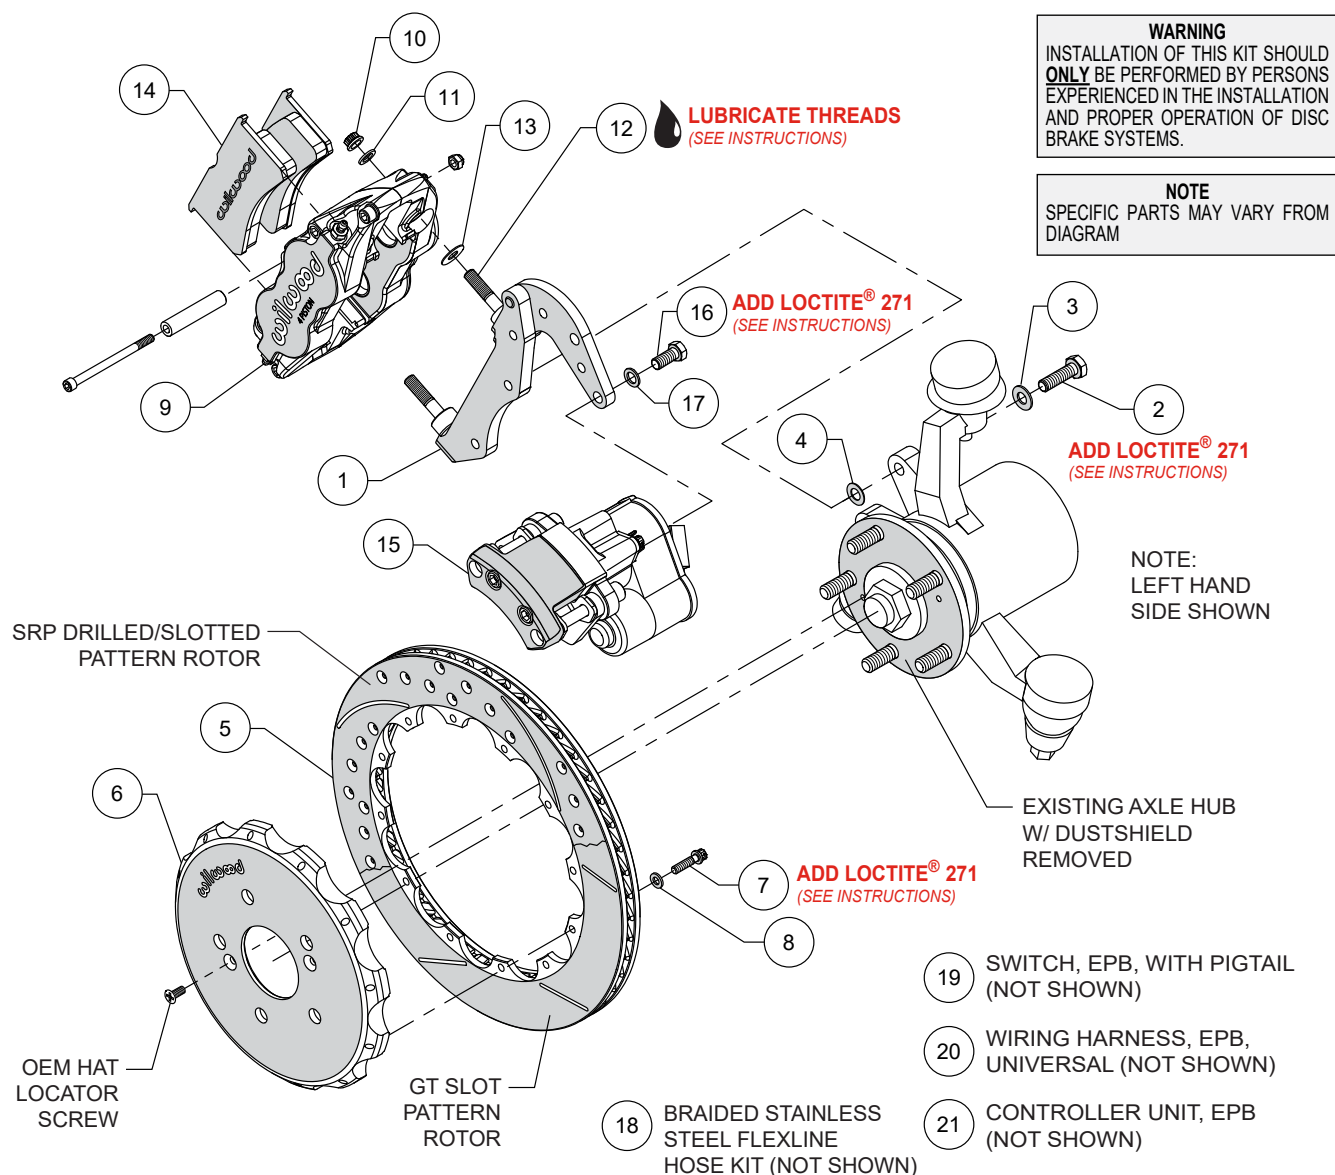
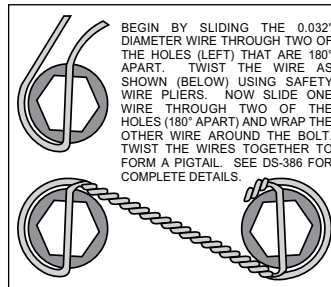

Figure 1. Typical Installation Configuration
Figure 3. Safety Wire Diagram
NOTE: Numbers in parenthesis refer to the parts list and Figure 1 on the preceding pages.
- The caliper mount bracket assembly (1) should initially be installed with clean, dry threads on the bolts. Orient the bracket assembly as shown in Figure 1 and Photo 1, and install using mount bolts (2) and washers (3). Initially place one .030" thick shim (4) on each bolt between the bracket (1) and upright. Temporarily tighten the mounting bolts. **NOTE: The bracket must fit squarely against the mount bosses on the upright.** Inspect for interference from casting irregularities, machining ridges, burrs, etc. Later, after the caliper alignment has been checked, the mount bolts will be secured using red *Loctite*® 271 and properly torqued.
- Orient the rotor (5) and the hat (6) as shown in Figure 1 and Photo 2. Attach rotor to hat using bolts (7) and washers (8). Apply red *Loctite*® 271 to the bolt threads and torque to 155 in-lb using a criss-cross pattern. For an added measure of security, the bolts may be safety wired using standard 0.032 inch diameter stainless steel safety wire as shown in Figure 3. Please refer to Wilwood's data sheet DS-386 (available at www.wilwood.com/Pdf/DataSheets/ds386.pdf) for complete safety wire installation instructions.
- Lubricate the caliper mounting studs (12) with lightweight oil. Initially place one .035" thick shim (13) on each stud between the caliper and the bracket (1), as shown in Figure 1 and Photo 3. Mount the caliper (9) onto the bracket (1) using lock nuts (10) and washers (11), Figure 1. Temporarily tighten the lock nuts and view the rotor through the top opening of the caliper. The rotor should be centered in the caliper as shown in Photo 4. If not, adjust by adding or subtracting shims (4) between the bracket and the upright. Always use the same amount of shims on each of the two mounting bolts. Once the caliper alignment is correct, remove the bracket mounting bolts (2) one at a time, apply red *Loctite*® 271 to the threads and torque to 35 ft.-lb.
- Mount the EPB caliper (15) onto the (flat) bracket (1) using bolts (16) and washers (17), as shown in Figure 1 and Photo 8. Apply red *Loctite*® 271 to bolt threads, and torque to 30 ft-lb.